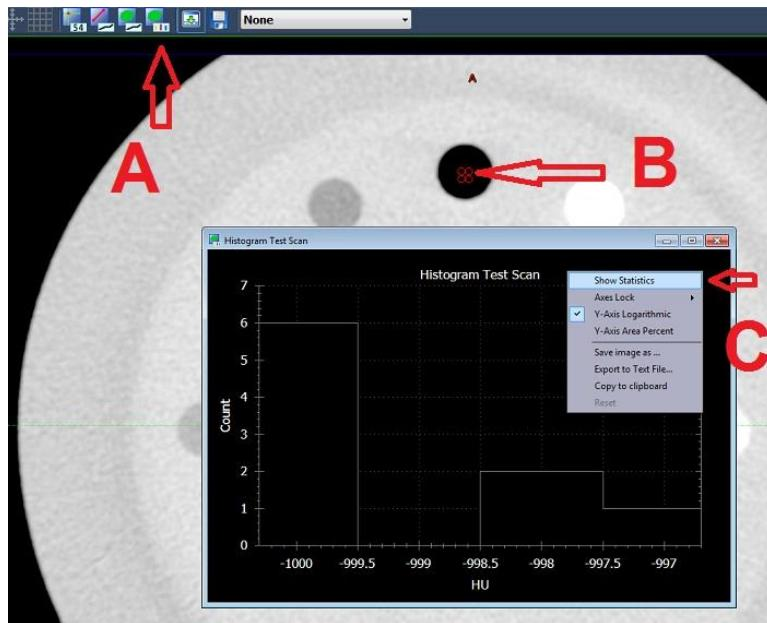

Figure 43: Selecting Statistics for Substance
6. Referring to Figure 43, select **Histogram** tab (labeled A) on the tool bar and then move the mouse cursor to click on Air substance (labeled B) on the image. Right mouse click within the Histogram window and then select “Show Statistics” (labeled C).